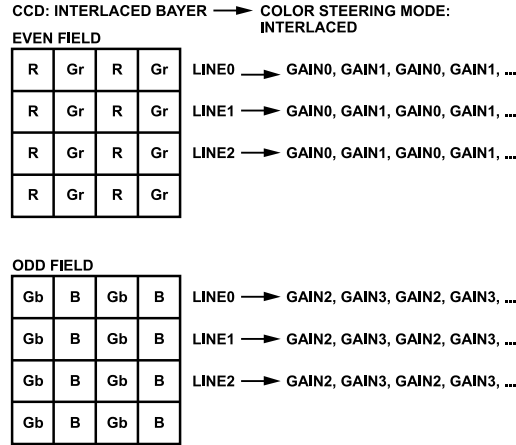
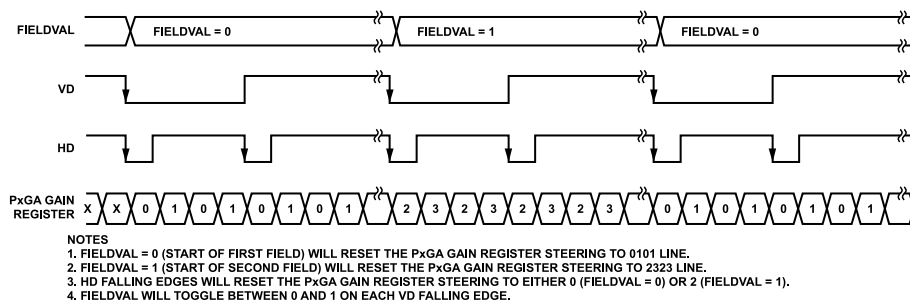

Figure 32. CCD Color Filter Example—Interlaced Readout
Figure 35. PxGA Color Steering—Interlaced Mode
The same Bayer pattern can also be interlaced, and the interlaced mode should be used with this type of CCD (see Figure 32). The color steering performs the proper multiplexing of the R, G, and B gain values (loaded into the PxGA gain registers) and is synchronized by the user with vertical (VD) and horizontal (HD) sync pulses. For timing information, see Figure 35.